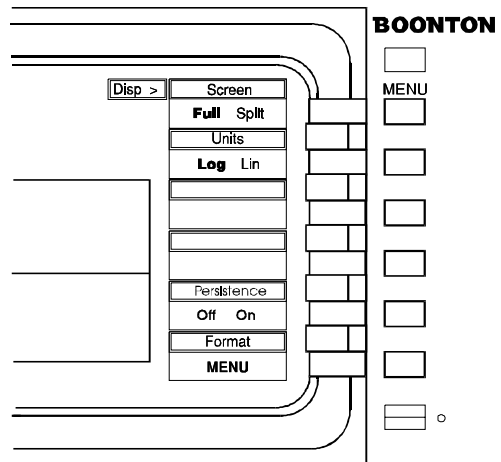

Figure 4-3a. *Disp >* Menu
7. The word “MENU” appearing in a selection box indicates that there is a submenu of additional selections at the next lower menu level. In the menu shown in Figure 4-3a, for example, when you press the *Disp > Trace Type* menu key, you will call up the *Disp > Trace Type >* submenu illustrated in Figure 4-3b.